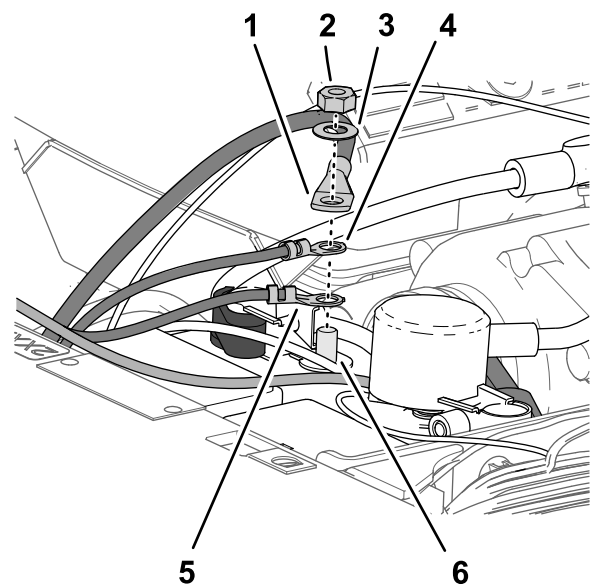

Figure 212
- Assemble the following wire and cable terminals onto the threaded post of the negative battery terminal (Figure 212) in the following order: